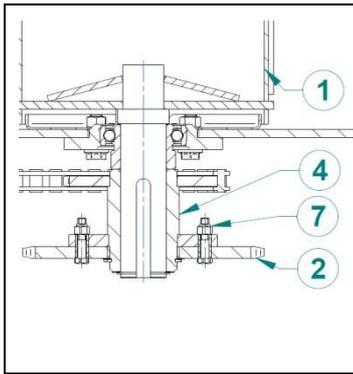

FIG. 67. SAFETY MECHANISMS OF THE FEEDER ROLLERS, RIGHT SIDE
The rollers (1) and other mechanisms of the feeder and the pickup are protected against overload (Fig. 67) using two M8x40-8.8-B shear bolts (4) with M8 lock nuts, which secure the chain sprocket (2) of the feeder drive to the hub (4) on the right journal of the front roller (1). Bolt shearing may occur with too heavy load of the feeder rollers (overloading the Baler, improper bale ejection, a stone inside the chamber, etc.) Setting the openings in the sprocket